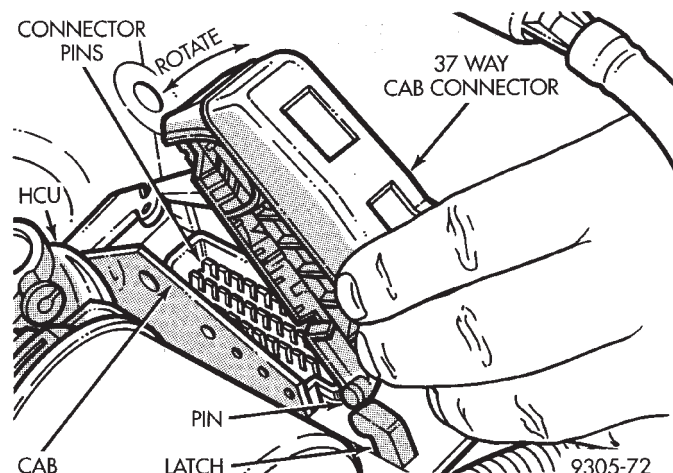

Fig. 23 Connector Removal From CAB
- (5) Grasp connector and rotate the rear of the connector up until it clears the connector pins on the CAB (Fig. 23). Then remove the CAB connector pin from the latch on the CAB (Fig. 23).
(3) Connect the wiring harness 60 way connector to the CAB using the following procedure. Install connector onto CAB with the connector pins located in latch first (Fig. 23). Then rotate rear of connector down onto CAB until fully seated onto connector pins of CAB. Rotate connector latch down until seated on the top of the CAB connector.